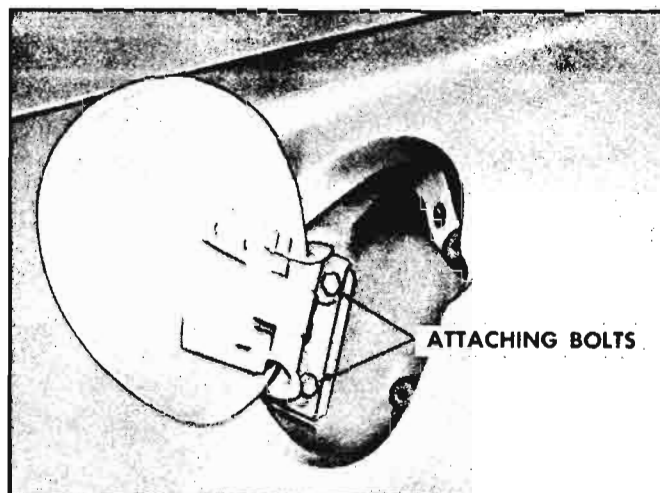

Fig. 10-21—Gas Tank Filler Door
2. Remove bolts (fig. 10-21) securing hinge to body and remove door assembly.